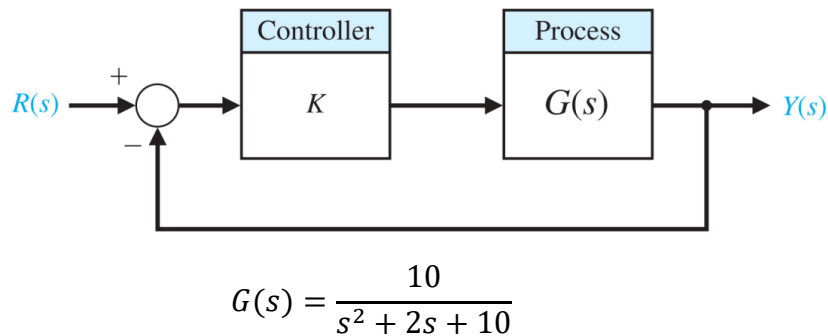

Figure 3
1. Consider the system given in Figure 3.